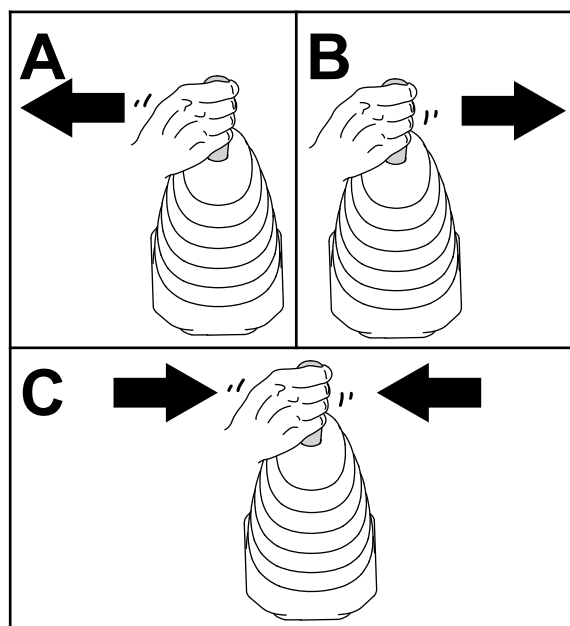

Figure 49
6. Move the loader joystick to the left, right, and back to the NEUTRAL position to relieve pressure at the hydraulic couplers (Figure 49).